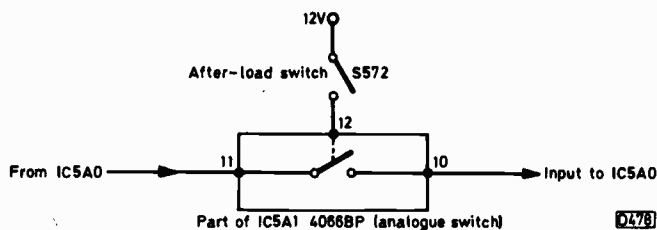

Fig. 4: After-load switch arrangement, Mitsubishi HS310B.
The main control chip is IC5A0, the output from pin 36 of this driving the pinch roller solenoid. We established that this output was not present, but having read in past issues how reliable these 40-pin brutes are we didn't immediately reach for the soldering iron. Much poring over the circuit diagram (why isn't it compulsory to include a good circuit description in all manuals?) revealed that one of the control inputs to IC5A0 comes via an analogue switch which is part of IC5A1. This switch is in turn controlled by the after-load switch S572 (see Fig. 4). The latter closes once the tape has threaded up completely, putting 12V on the control pin (12) of the analogue switch which then closes, telling the control chip to operate the pinch roller solenoid.